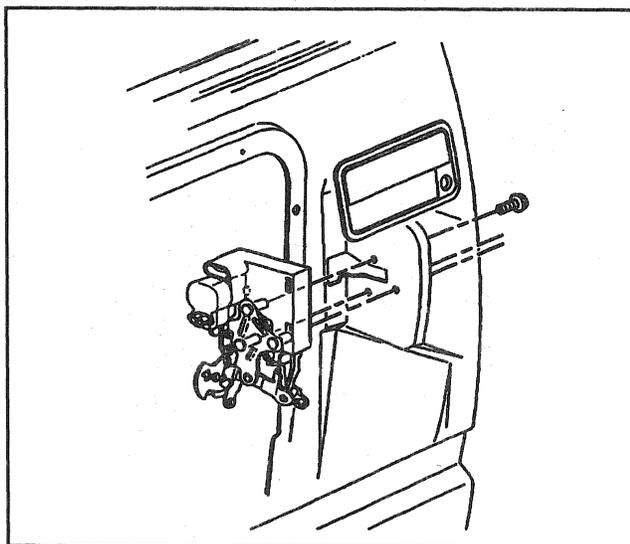

Figure 27—Outside Door Handle and Lock Assembly
6. Outside door handle and lock control rods (Figure 27).
1. Pull outside handle out of door opening and slide latch outside door connector onto outside handle rod. Twist latch into door assembly and retain with three screws (Figure 27).
Remove or Disconnect (Figures 27 and 28)
4. Outside handle rod from the rod clip (Figures 27 and 28).
5. Lock cylinder rod from the rod clip (Figures 27 and 28).
Install or Connect (Figures 27 and 28)
3. Lock cylinder rod to the lock cylinder clip (Figures 27 and 28).
4. Handle rod to the handle assembly clip (Figures 27 and 28).